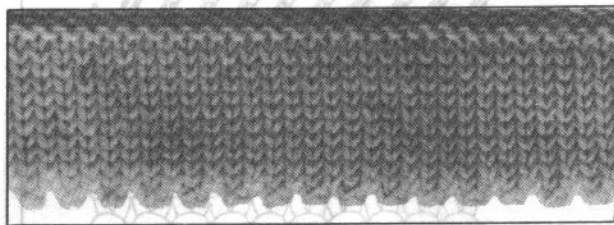

Fig. 4
6. Follow Plain Hem instructions 3 and 4. (Fig. 4)